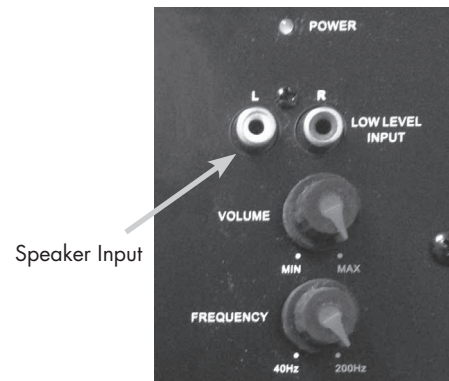
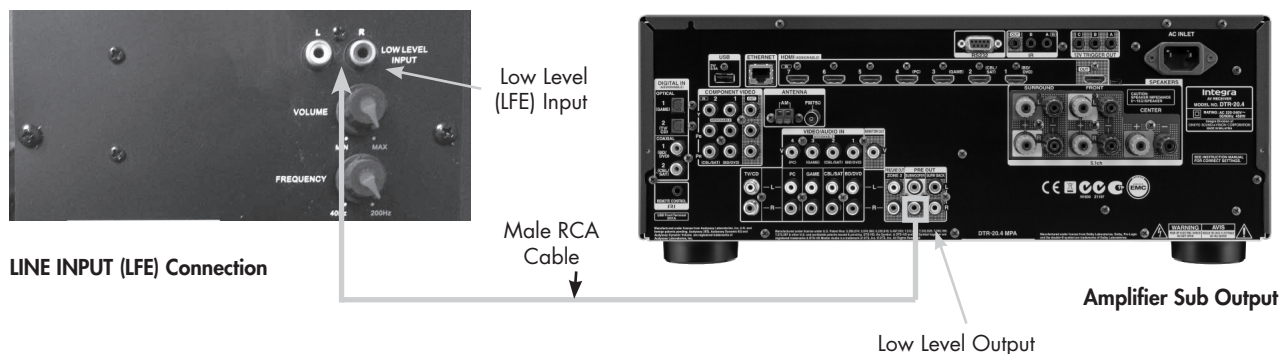

Figure 1, LINE INPUT
Figure 2, LINE INPUT Hook-Up
The preferred low Line Level (LFE) connection is made by connecting a quality single RCA audio cable with male ends. If your amplifier has two outputs connect only to the left sub out or follow amplifier directions. When using the amp LFE output turn the FLSUB Crossover Frequency knob fully (CW) clockwise. See Figure 1, LINE INPUT (LFE) and Figure 2, Hook-Up.